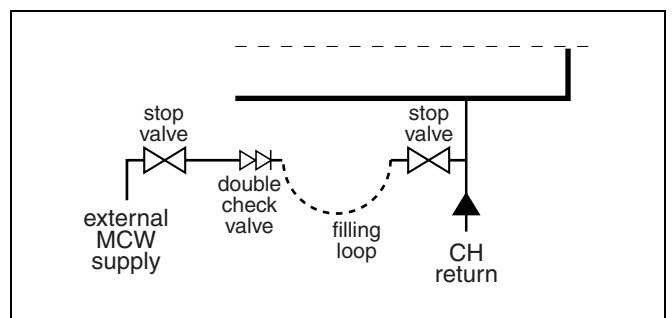

fig. 5 Connecting filling loop
- Connect filling loop (fig. 5).
- Open both stop valves (fig. 5).